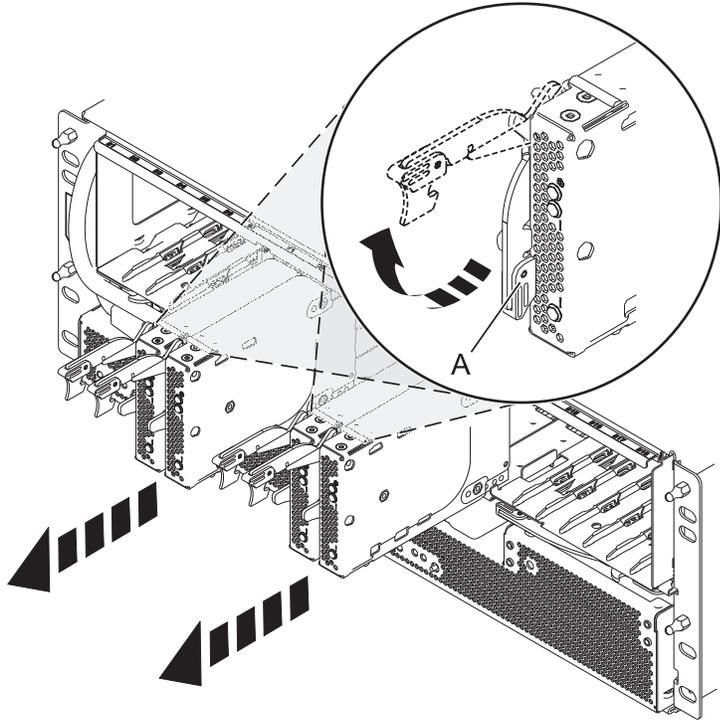

Figure 78. Removing the port card from the backplane
4. Remove the port cards and fillers as shown in Figure 78 on page 131.